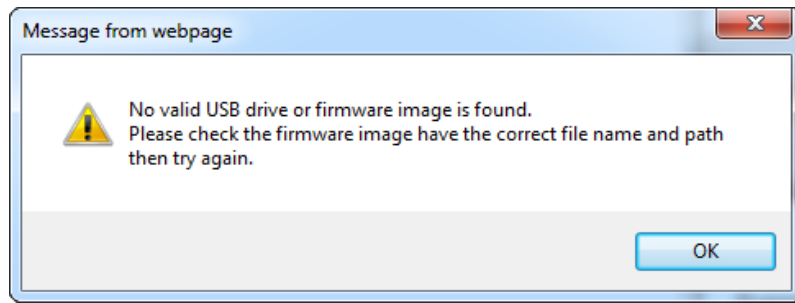

Figure 3-13 Error message dialog box
- e If the USB drive is not connected or there is no firmware image file found, you will be prompted by an error message dialog box as shown in **Figure 3-13**. Select **OK** and repeat **step 3**.